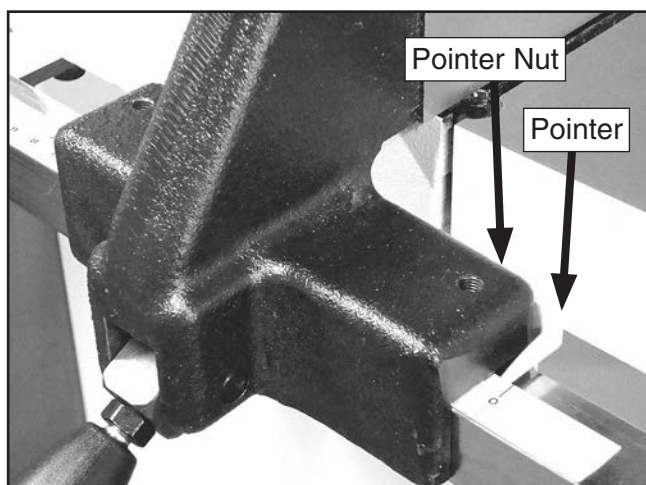

Figure 32. Calibrating fence pointer (adjustment nut out of view).
7. Loosen the pointer adjustment nut (see **Figure 32**) and set the pointer in line with "0" on the measurement scale on the rail.